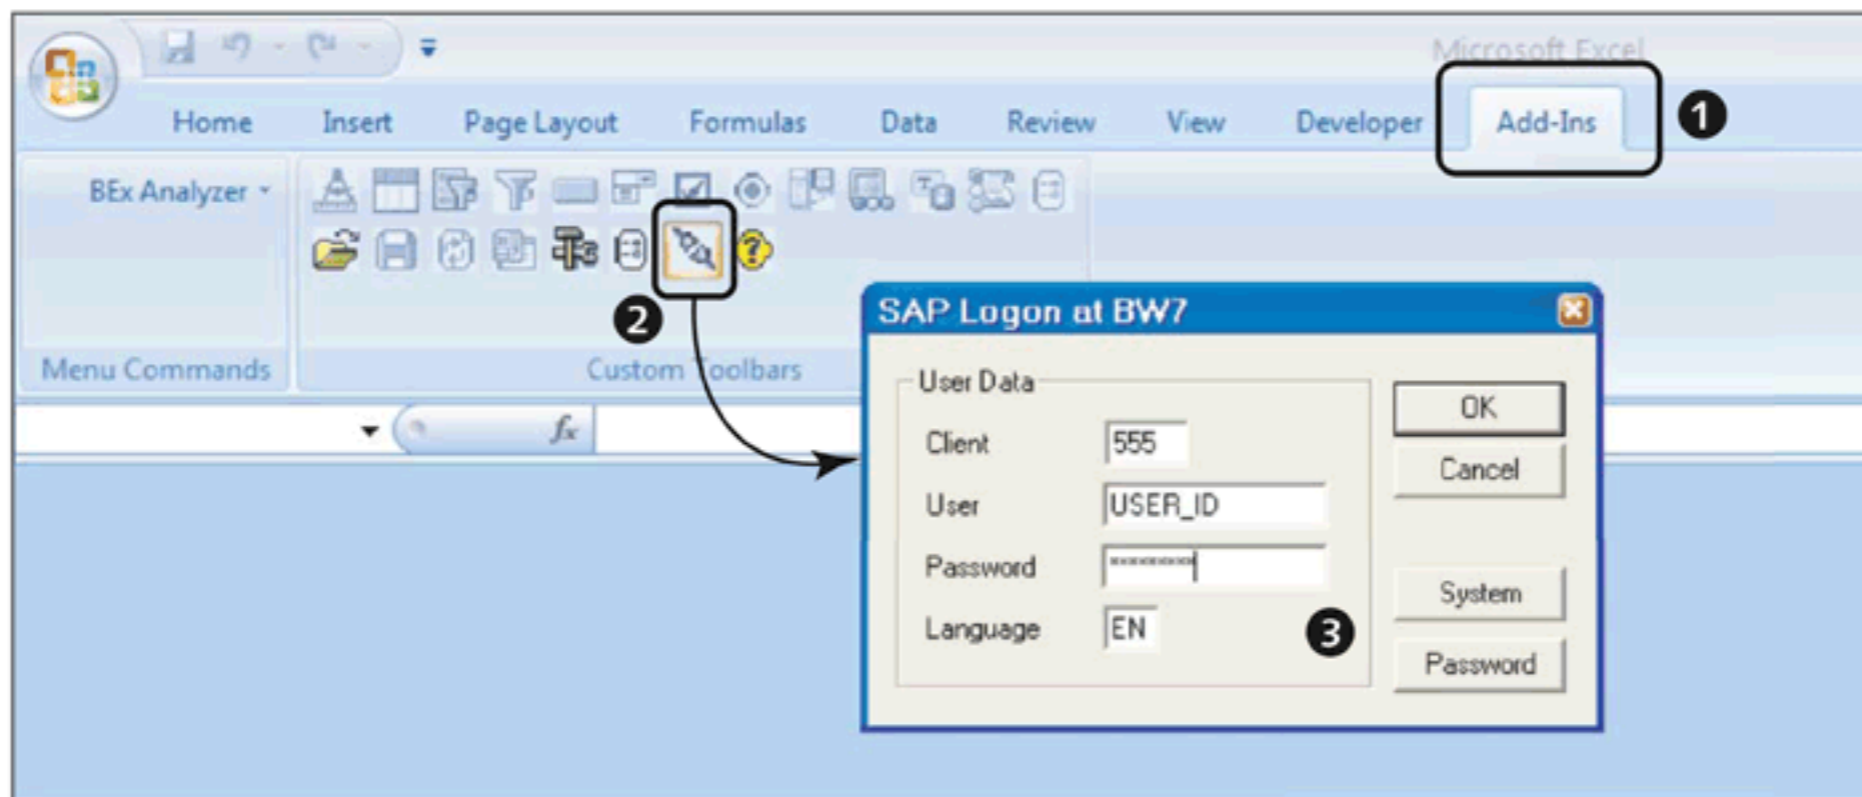
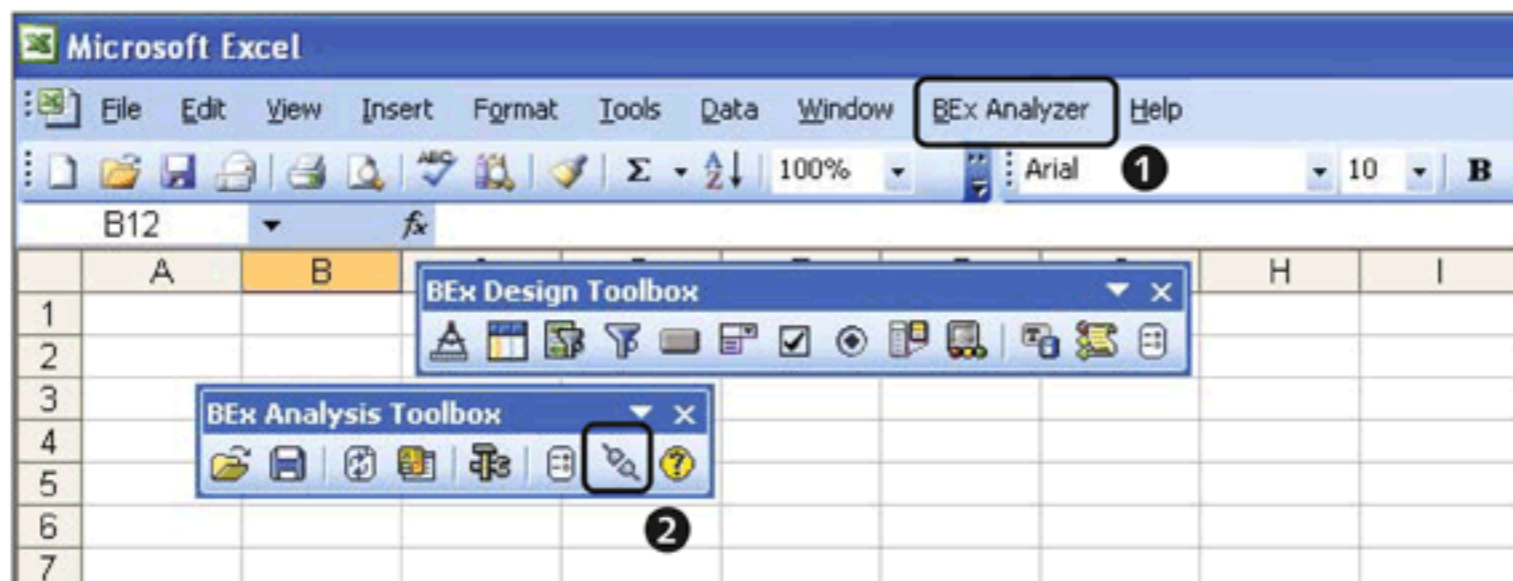

Figure 10.2 Connect to BEx Analyzer
Figure 10.3 Connect to BEx Analyzer (Excel 2003)
Starting BEx Analyzer opens an Excel session on your computer. BEx Analyzer functions are available in Excel through the Excel add-in. These functions can be seen by clicking on the **ADD-INS** tab on the Excel toolbar, as shown in ❶ of Figure 10.2.
Figure 10.2 displays the BEX ANALYZER add-in in Microsoft Excel 2010. If you're using Microsoft Excel 2003, BEx Analyzer functions can be accessed as shown in Figure 10.3.
The BEX ANALYSIS TOOLBOX and BEX DESIGN TOOLBOX are visible as two separate toolbars, and a new BEX ANALYZER menu is available in the Excel menu bar, as shown in ❶ of Figure 10.3. In this chapter, all of the figures and illustrations are made using Microsoft Excel 2007. The BEx functions remain the same in both versions of Excel.
To execute a query or to perform an analysis in BEx Analyzer, you must first establish a connection with the SAP NetWeaver BW system. To make a connection, click on the CONNECTION button (❷ of Figure 10.2; or ❷ of Figure 10.3). This opens the login screen for the SAP NetWeaver BW system; enter the login credentials to connect BEx Analyzer with SAP NetWeaver BW (❸ of Figure 10.2).